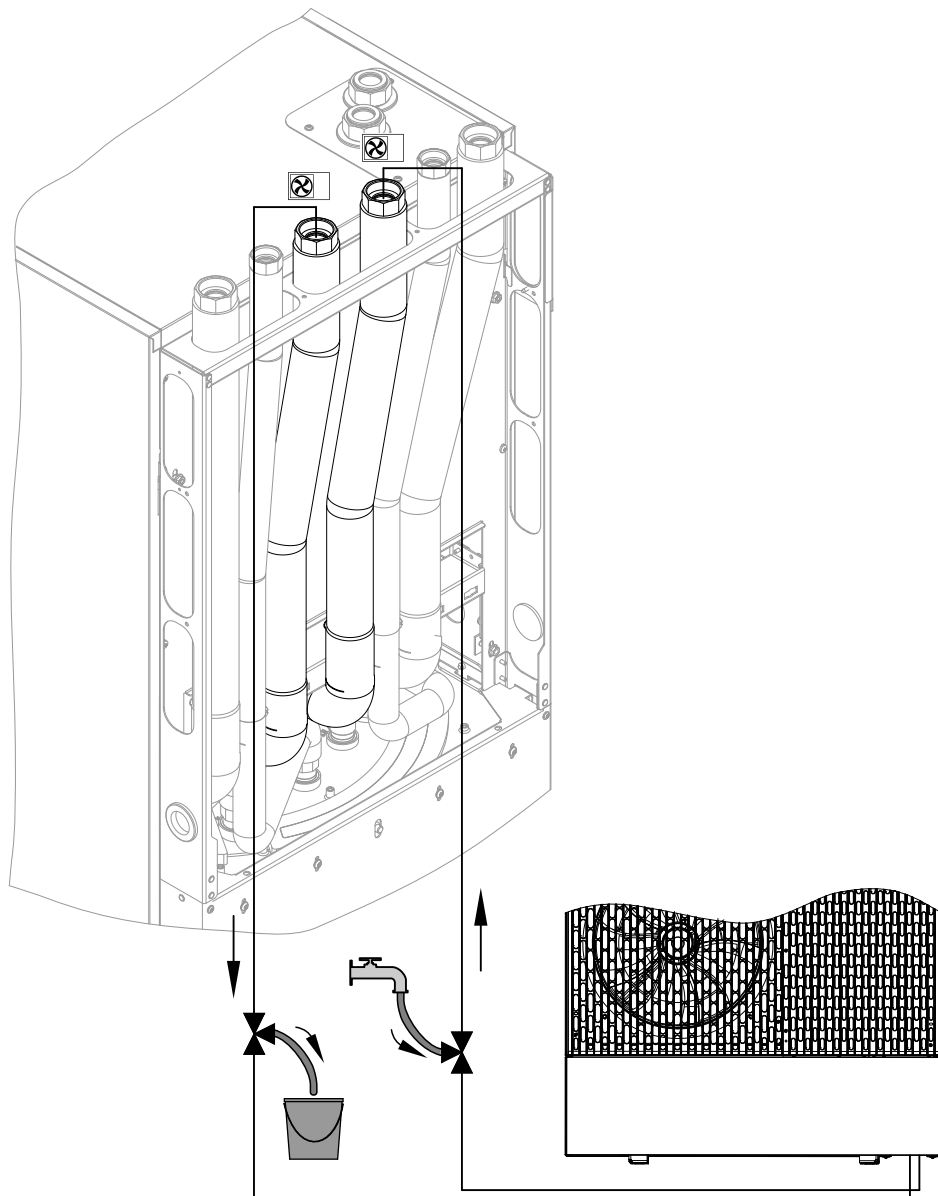

Fig. 75
3. Open the outdoor unit 3-way flow and return ball valve as shown in Fig. 75: **Open in all directions**